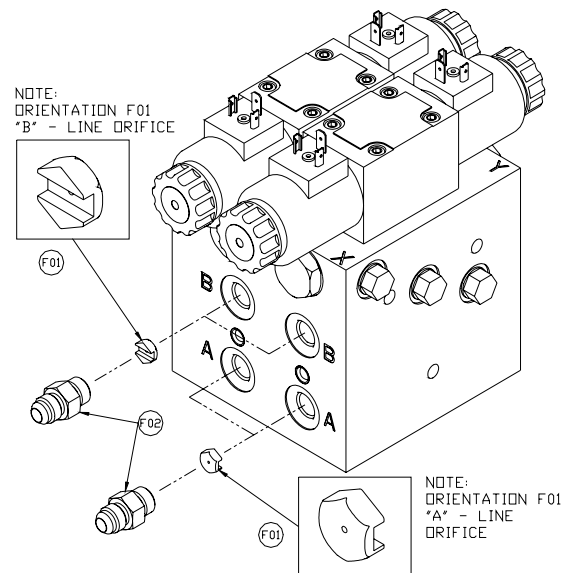

Figure 17 – Double Acting Valve Block Assembly
- 1) Install the orifices (F01) into the "B" ports with the notch facing outward as shown in Figure 17.
- 2) Install the orifices (F01) into the "A" ports with the notch facing inward as shown in Figure 17.